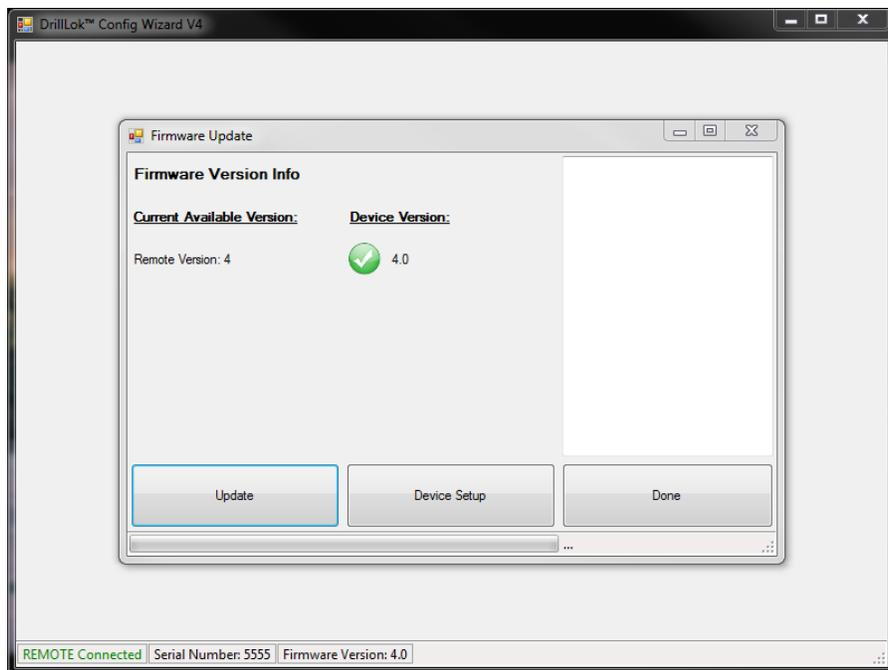

Figure 1.
4. If the “Device Version” of software is accompanied by a green check (see Fig 1) the software is up to date and does not need updated. If it is accompanied by an orange X, the software needs to be updated.